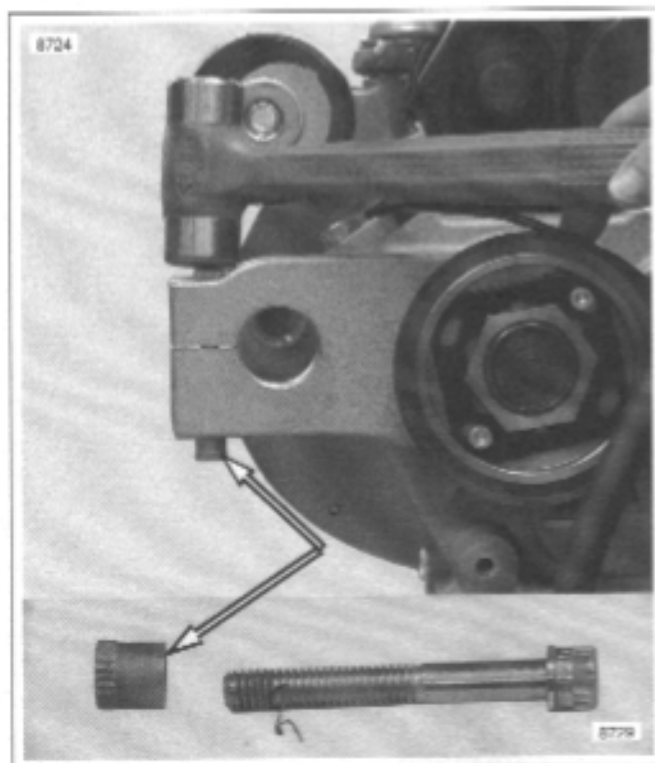

Figure 3-30. Removing Threaded Insert
- See Figure 3-30. Swingarm pivot shaft pinch bolt threaded insert.